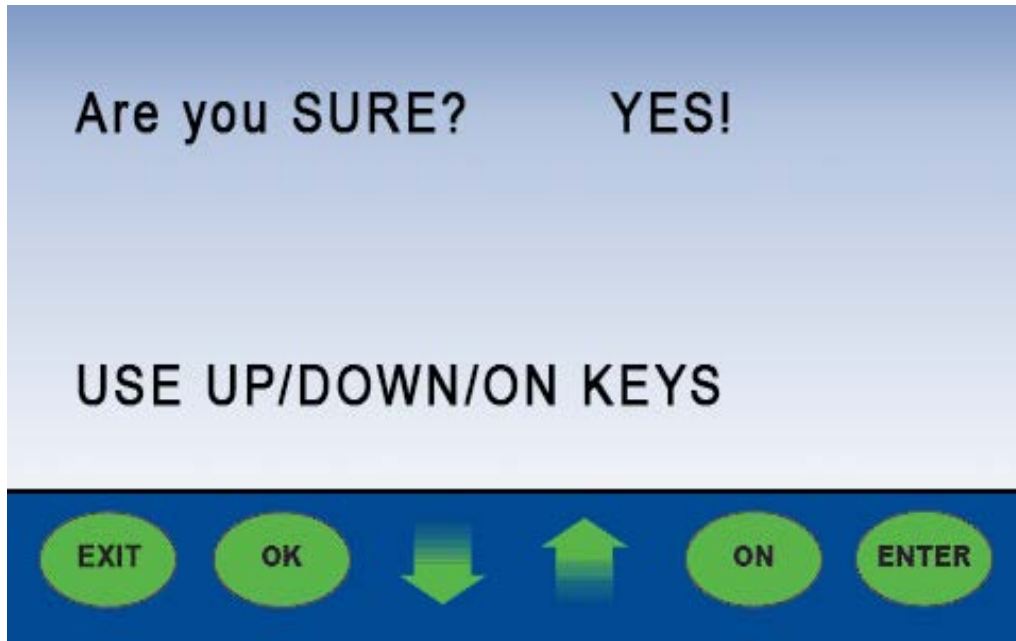

Figure 61
4. Using the **up or down arrows**, switch to “yes”. **(Figure 61 on page 116)**
5. Press “on” to enter “yes”. **(Figure 61 on page 116)**
6. Press the **exit button** twice (2) to return to main screen **(Figure 61 on page 116)**; password protection is enabled.